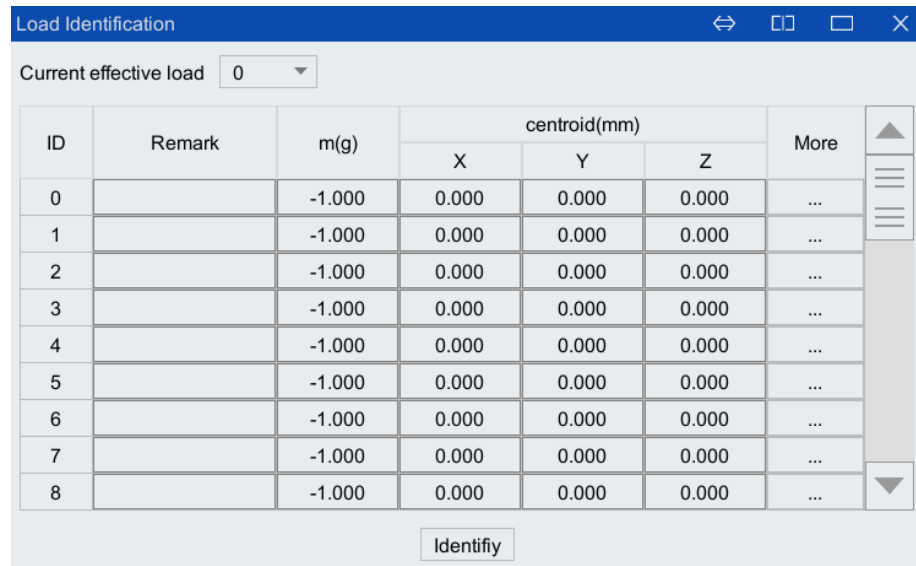

Figure 5-107 Load parameter setting interface
Step1.Click "Run>Load identification" on the main interface of the teach pendant to enter the [Load Parameter Setting] interface as shown in Figure 5-107.